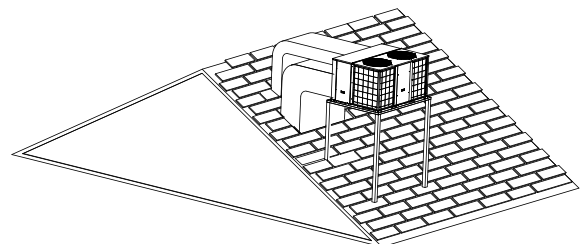

Fig.5-2
- Typical rooftop application with frame. (See Fig. 5-2)